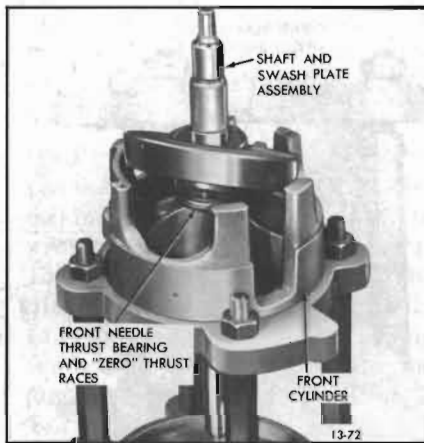

Figure 13-72—Shaft and Front Needle Thrust Bearing in Cylinder Half
2. Place front cylinder on top of Compressing Fixture (J-9397) as shown in Figure 13-72.
3. Generously coat with clean petroleum jelly two "zero" thrust races, and a new needle thrust bearing. Assemble races and bearing to front end of shaft and swash plate assembly and insert assembly into front cylinder (see Figure 13-72).
13. Remove cylinder assembly from inside Compressing Fixture (J-9397), place on top of compressing fixture (see Figure 13-72) and disassemble rear cylinder from front cylinder using rubber mallet and wood block.